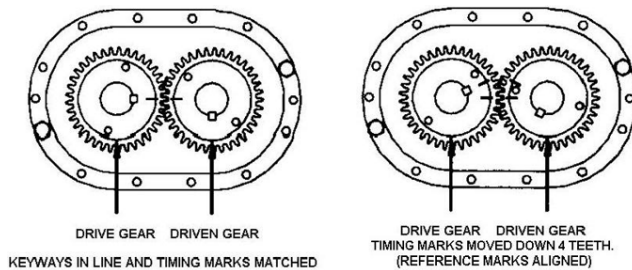

Figure 5. Timing Gear Alignment.
- b. Align timing marks and count four (4) teeth down and place reference marks on the gears. Refer to Figure 5 below.